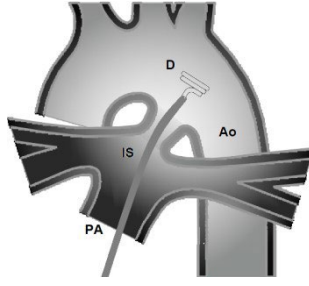

Fig 09
- Assemble the transport catheter (L) with the Y(Y) key.
- Retract the pusher (P) until the device (D) is completely inside the transport catheter (L), preferably in a heparinized solution.
- Connect the Transport Catheter (L) to the Implantation and Push Catheter slowly push the pusher (P) until the device (D) reaches the end of the implantation catheter.
- Slowly push the pusher (P) to unfold the distal turns of the device in the aorta (Fig. 09).